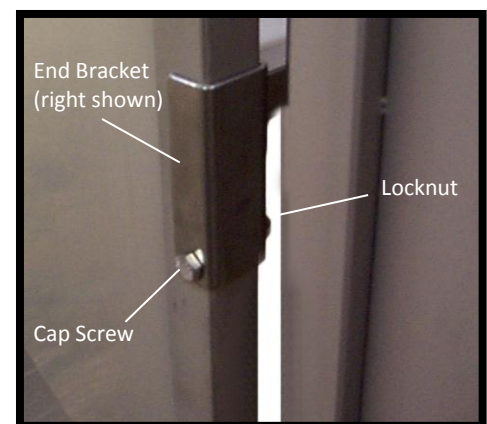

Figure 76: End Panel Resting Shelf Bracket
1. With two 1/2 in. wrenches, remove the two cap screws and locknuts that hold the resting shelf to the end/partition panel brackets (Figure 76).
3. With two 1/2 in. wrenches, remove the cap screw and locknut that secure the bracket to the end panel (Figure 76), and remove the bracket.